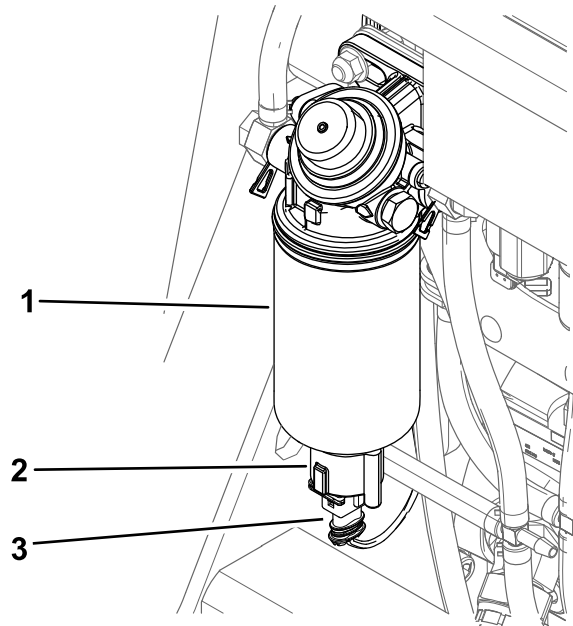

Figure 52
6. Disconnect the wire harness from the water separator (Figure 52).
7. Unscrew the switch from bottom of the filter canister and allow the water to drain (Figure 52).
8. Install the switch (Figure 52).
9. Connect the wire harness to the switch (Figure 52).
6. Unscrew the switch and drain the water separator (Figure 52).